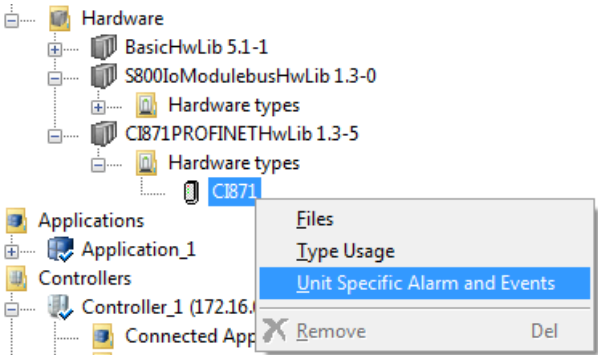

Figure 163. Accessing the Unit Specific Alarm and Events option
2. Right click the required hardware type and select **Unit Specific Alarm and Events** (see Figure 163).